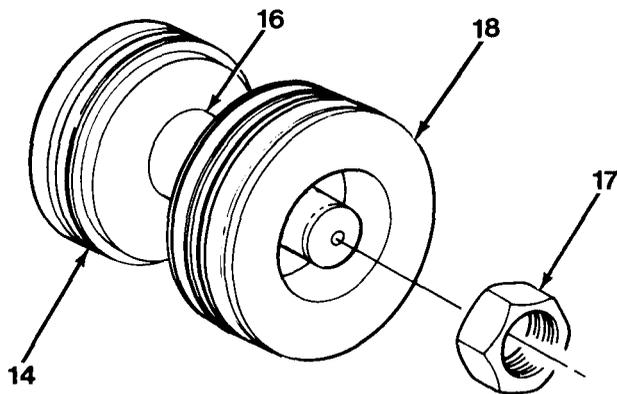

Figure 13-6
4. Remove nut (17), piston (18) and gland (14) from rod assembly (16, Figure 13-6).